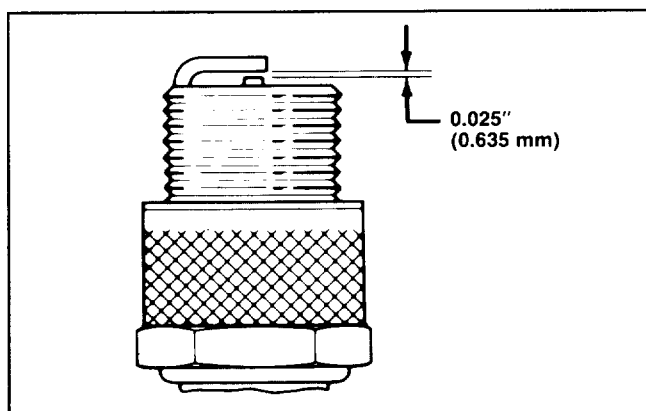

Figure 22
5. Set air gap between center and side of electrodes at 0.025 of an inch (0.635 mm) (Fig. 22). Install correctly gapped spark plug w/gasket seal, and tighten plug to 10–15 ft-lb (14–20 N m). If torque wrench is not used, tighten plug firmly.